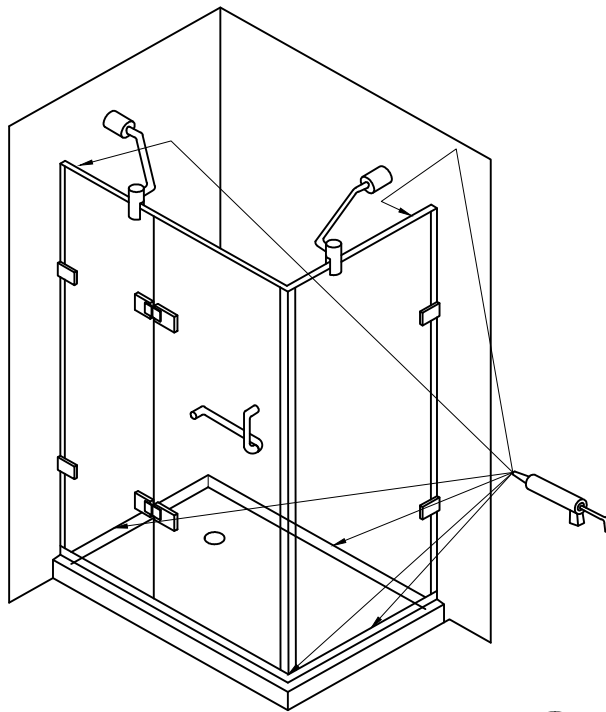

FIG.13
1. Apply clear silicone caulking to the inside between the wall and side seal strip. Repeat for the other side. [SEE FIG.13]